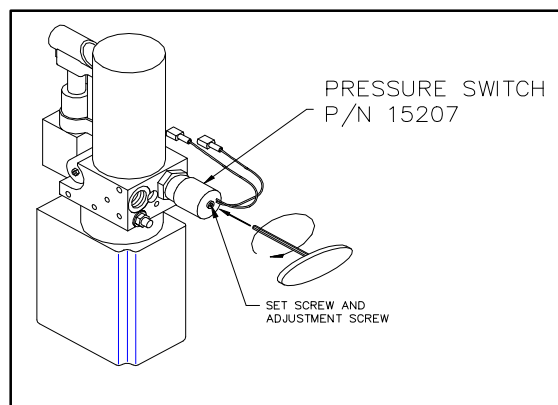

FIGURE 2-22: HYDRAULIC PUMP WITH PRESSURE SWITCH
- c. Refer to **Figure 2-22**. Remove the 1/4-20 x 1.00" locking set screw (with hex recess) from end of pressure switch to gain access to adjustment screw. Save screw for reinstallation.